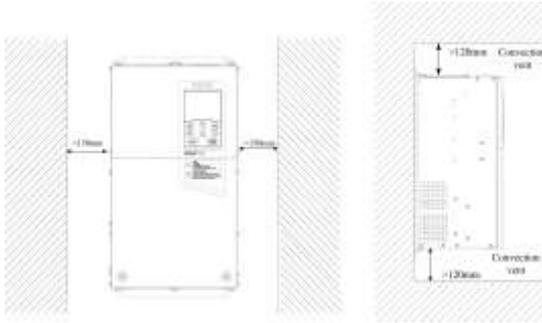

Figure 2–2 Inverter Installation Direction and Space
EM630 inverters can be categorized into 12 specifications for 6 overall and installation dimensions (as shown in Figure 2–1 and Figure 2–2).
A cooling fan must be installed for EM630 inverter for forced air cooling. An inverter must be installed in vertical direction with enough space maintained with an adjacent object or a baffle (wall) for better cooling effect (see Figure 2–2).
- Disassemble the keypad: Put your fingers in the finger slots on the top of the keypad, press the keypad down slightly and pull it outward (as shown in Figure 2–3).